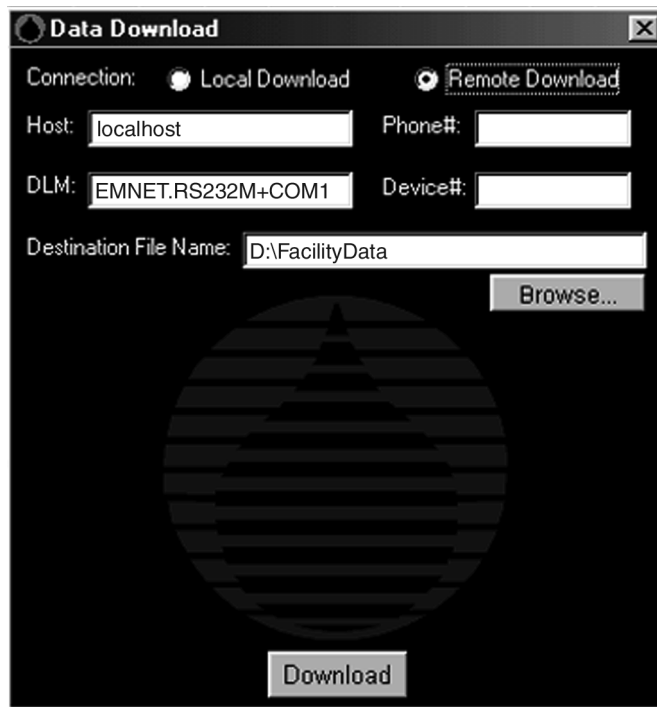

Figure 9-10: Automatic Polling Dialog Box
1. From the **Data Readers** menu, select **Automatic Polling**. The dialog box shown in Figure 9-10 will appear.